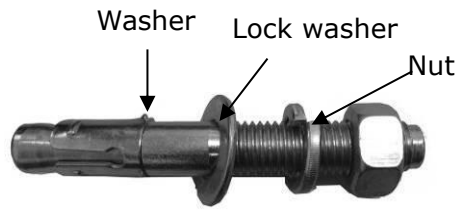

**Fig. 30**
1. Install caster kits or Rolling jack (See Fig. 30)